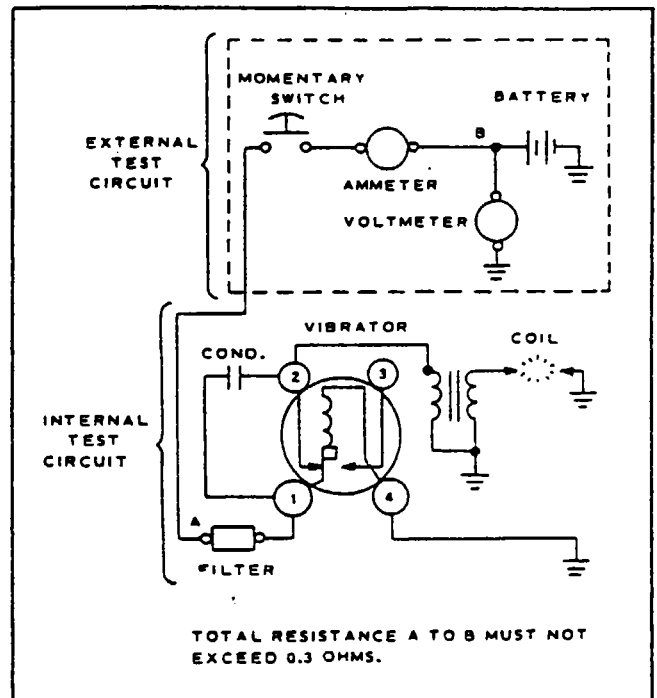

Figure 13-11. Wiring - Test Setup
- f. Arrange the test equipment as shown in Figure 13-11.